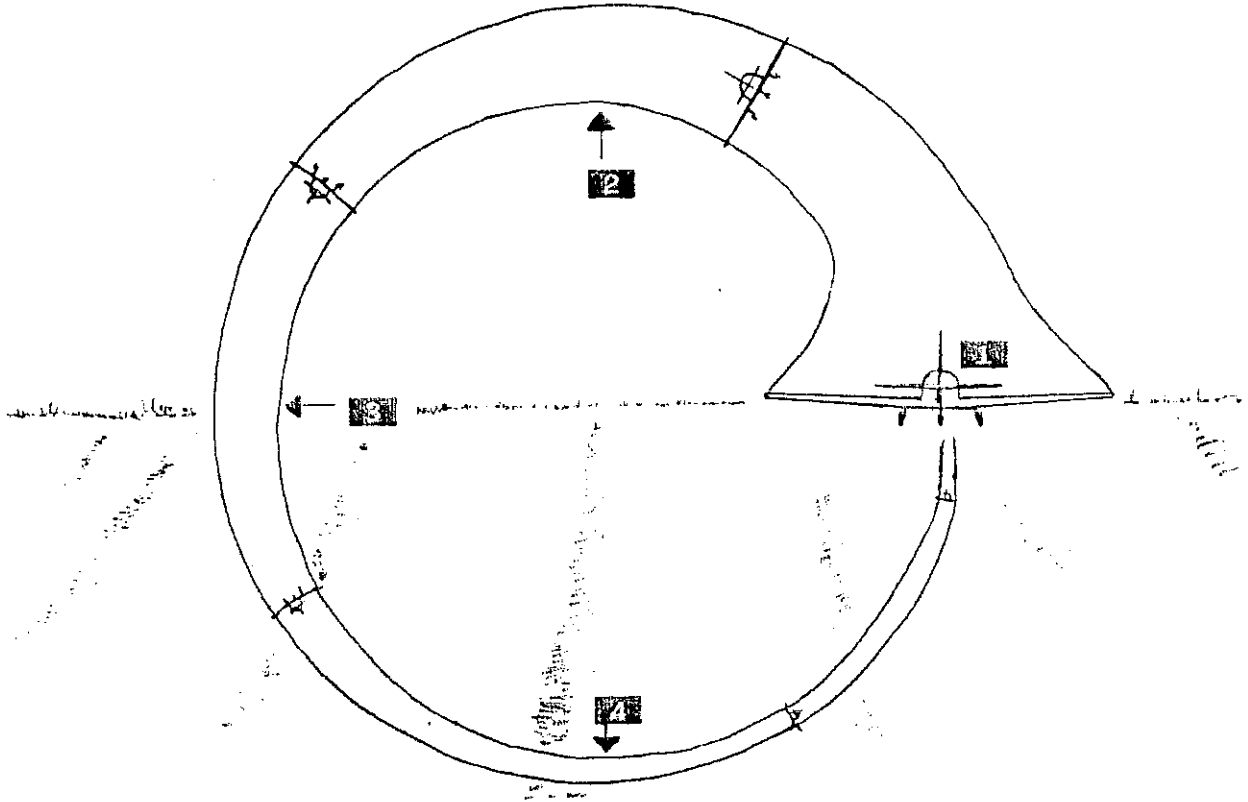
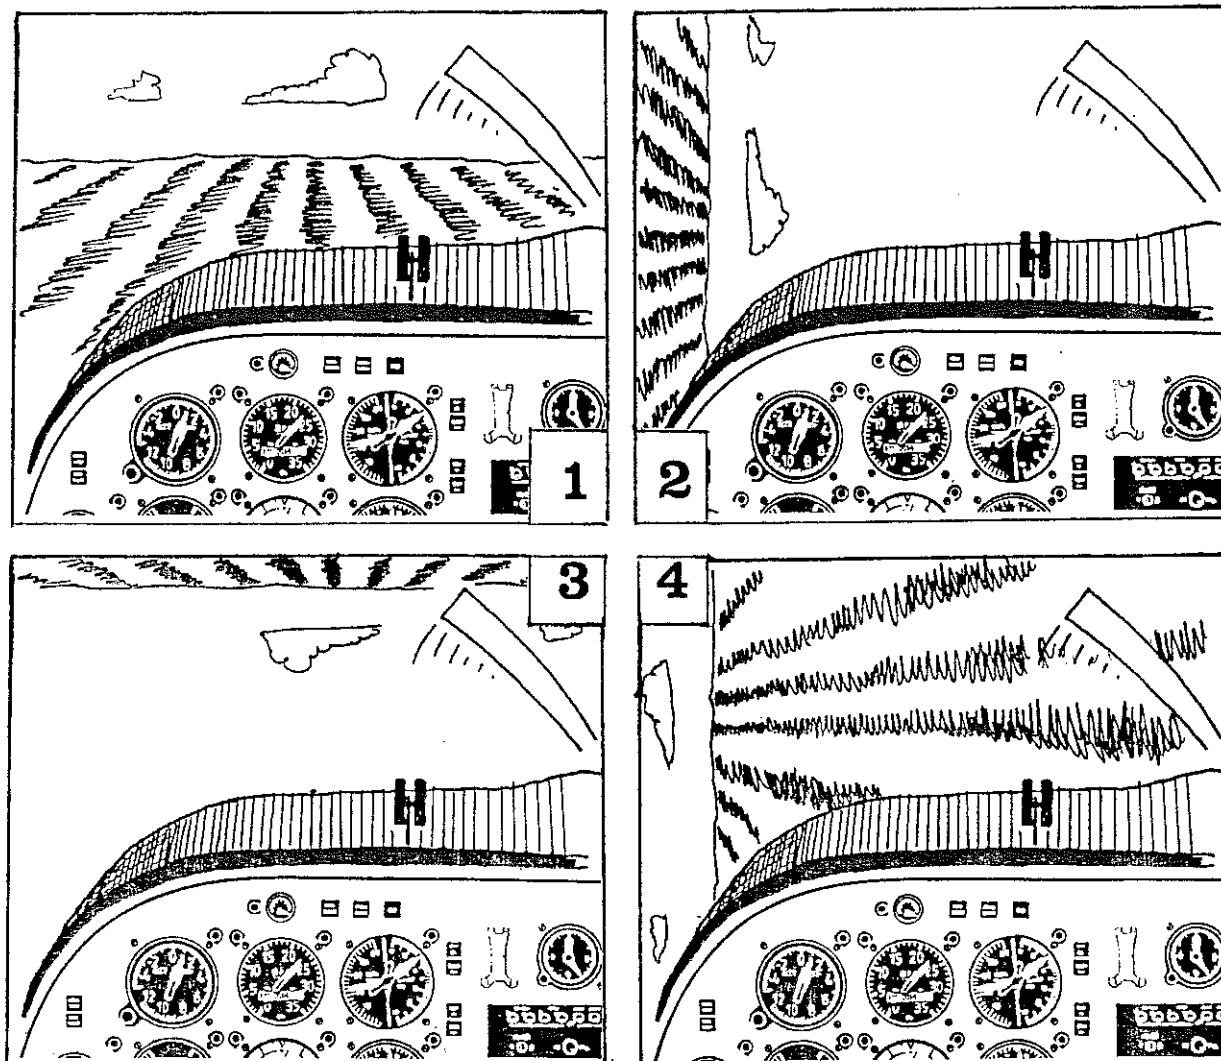
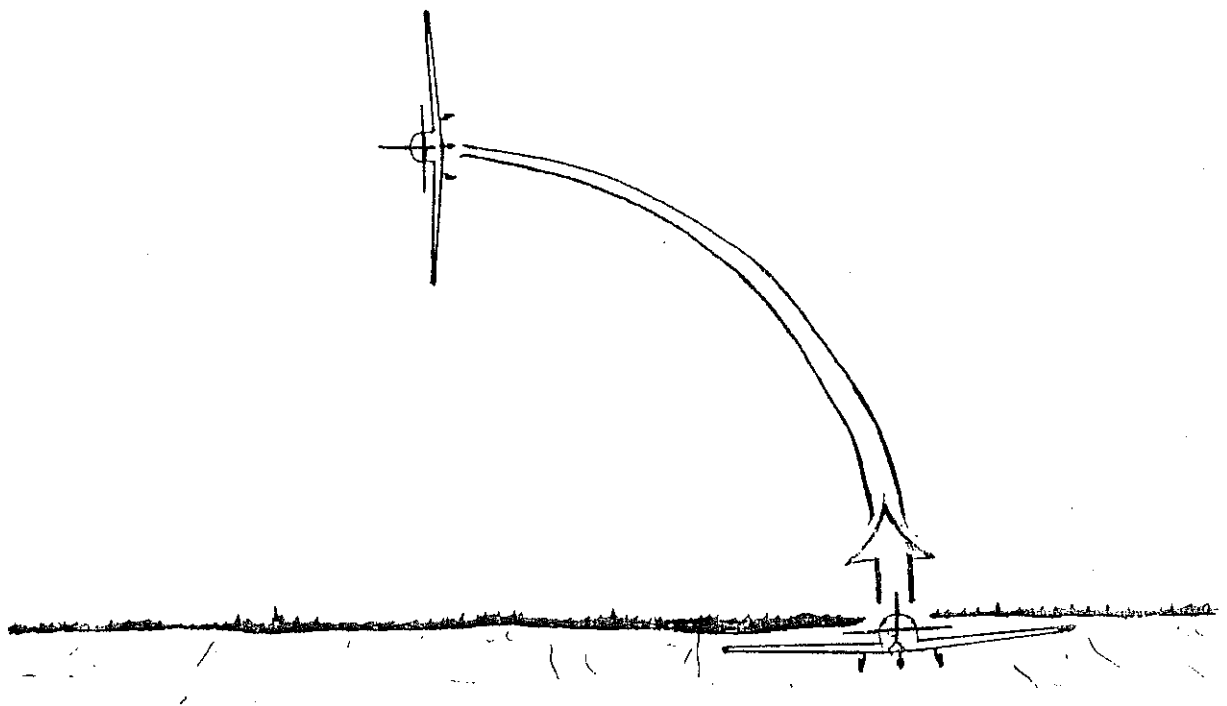
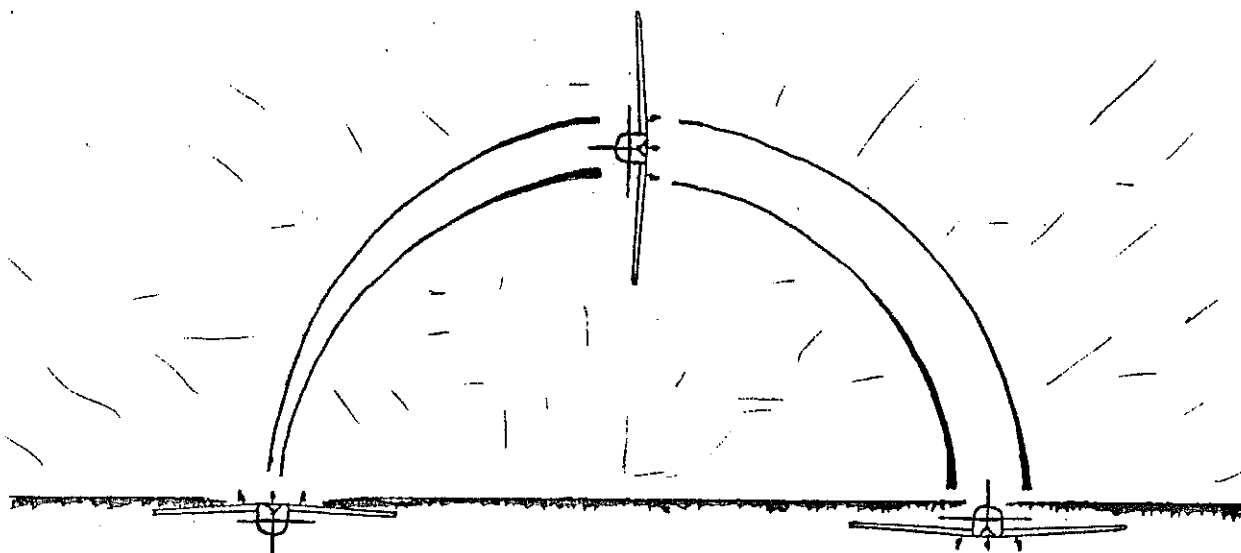

Fig 18.2 Barrel roll viewed from behind
Fig 18.3 Barrel roll - pilot's view
Fig 18.4 First half of barrel roll
Fig 18.6 The second half of the roll
21 Before describing in detail how to fly the roll, it will be easier for you to understand if you know what the barrel roll looks like to an observer and what it should look like to you in the cockpit. (Fig 18.2) and (Fig 18.3) show the barrel roll as viewed from outside and from inside the cockpit respectively.
23 **First half of the roll** We shall consider the barrel roll in stages - although, as pointed out earlier, you must make a smooth transition from one stage to the next. The first 90° of the roll is illustrated in (Fig 18.4) and described below. Note that a roll to the right is assumed (a clockwise roll).
- * This turn should bring you towards the 8 o'clock position on your imaginary circle; anticipate this point and, just before you reach it, start reversing your bank to begin the roll, introducing a firm back pressure as you do so. The amount of aileron you use should be sufficient to bring your wings level as the nose is brought up through the horizon (see Fig 18.4).
- * As you will see from (Fig 18.2) and (Fig 18.4) we arrive at position 2 with the nose in its highest attitude and the wings perpendicular to the horizon.
26 **The second half of the roll** The second half of the barrel roll is spent with the nose below the horizon in a descending attitude (see Fig 18.2). It follows, therefore, that the airspeed will increase until the aircraft is level again - ie with the nose somewhere near the horizon as at position 1. The increase in speed will be noticeable by the feel of the controls, particularly the elevator. The important actions during the second half of the roll are illustrated in (Fig 18.6) and described below: